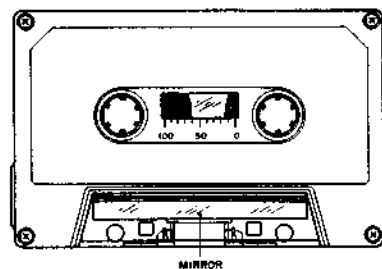

Fig. 10
- 1) When using an ordinary cassette, the tape guides and heads, etc. are not visible. As shown in Fig. 10 use a cassette tape from which part of the cassette case has been cut out and a mirror installed for easy visibility of the head area when making tape guide height adjustment
4. When a mirror installed cassette test tape as shown in Fig. 10 is required, it can be ordered from AKAI Electric Co.